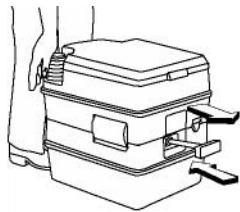

Figure J9: Porta Potti - Bellows Flush Operation
**Before each use:** With seat cover closed, open and close the holding tank valve (Figure J9) to vent any pressure that may have built up as a result of heat or altitude. This prevents upward splashing of bowl contents when toilet is flushed.
1. Pull out holding tank valve handle (Figure J9).